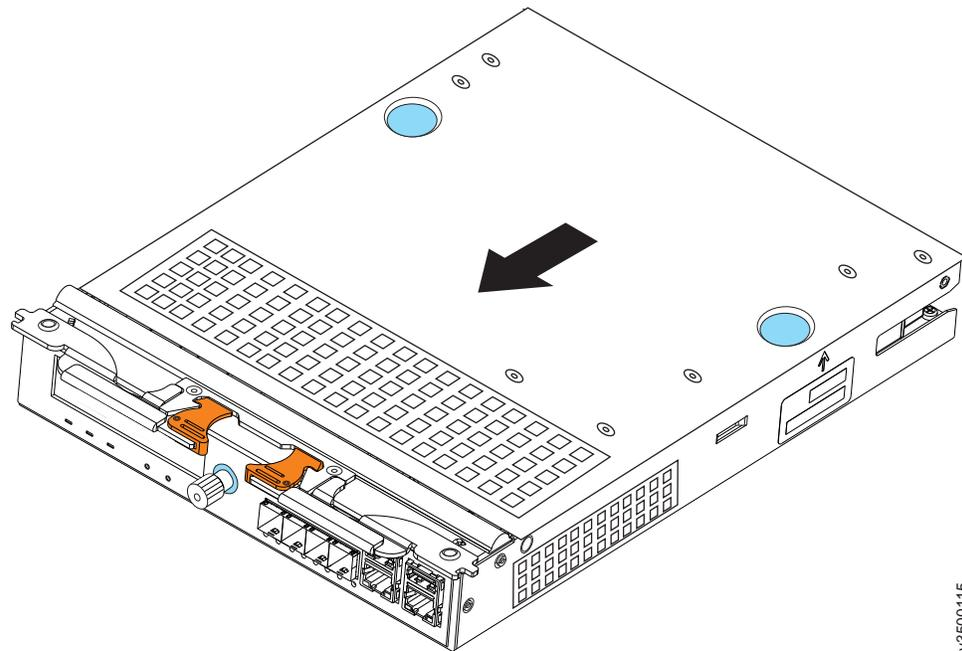

Figure 24. Reinstalling the canister cover
1. Reinstall the cover as shown in Figure 24.